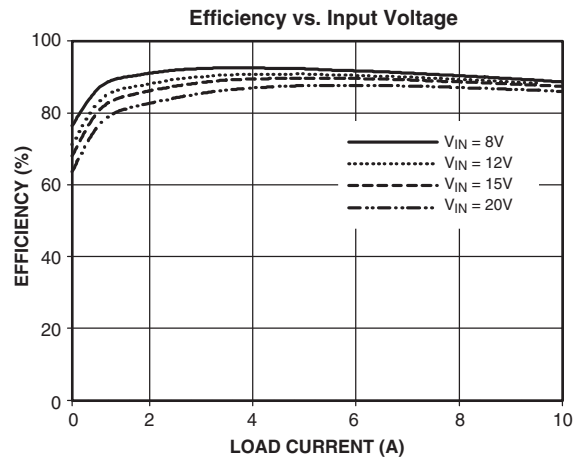

Figure 19. 1.5V PWM Efficiency
The clock frequency on the oscillator is set using an external resistor connected between R(T) pin and ground. The frequency follows the graph, as shown in Figure 19. The minimum clock frequency is 200KHz, which is when R(T) pin is left open. Select the value of R(T) as shown in the equation below. This equation is valid for all $F_{OSC} > 200\text{KHz}$.